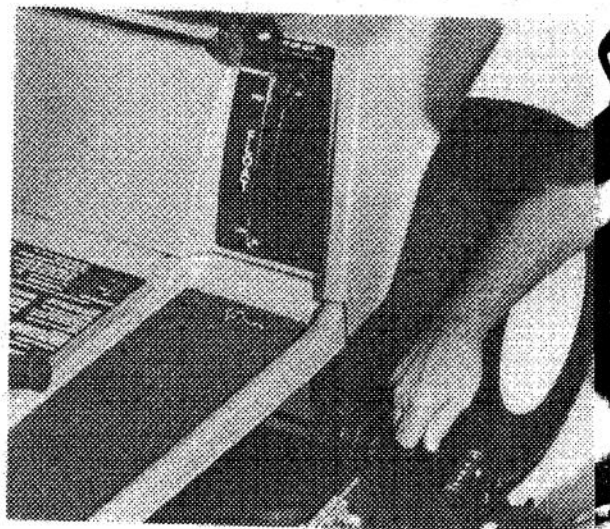

Figure 17
3. Move height-of-cut control on Rider (Fig. 17) into desired setting for high or low cutting.